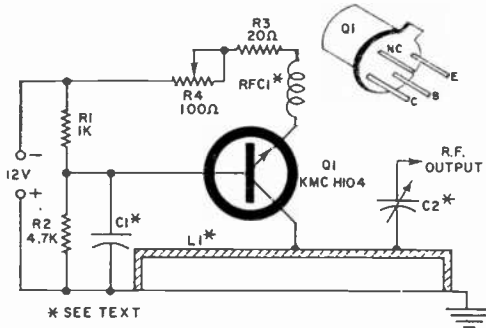

Fig. 1. The transmitter uses a special microwave transistor as a very low-power oscillator.
**Transmitter.** The schematic of the transmitter is shown in Fig. 1, while Figs. 2, 3, and 4 show the method of construction. The ground plane is a piece of conventional copper-clad PC board measuring about  $4\frac{1}{2}'' \times 3''$ .
Fig. 1. Graph at left shows speaker's free air impedance (solid line), impedance in 1300 cu in. tuned enclosure (short dashed line), and impedance in 8600 cu in. tuned enclosure (long and short dashed line).